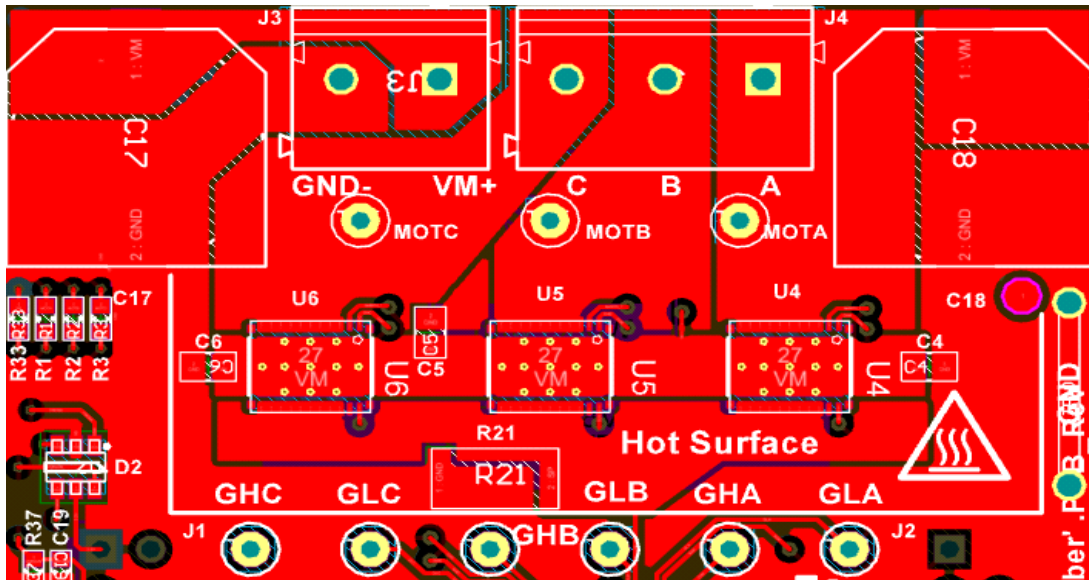

图 6-2. Top Layer
- Use the smallest drill size allowed by the design. The example in 图 6-2 uses vias with a 10mil drill hole and a 16mil solder pad.